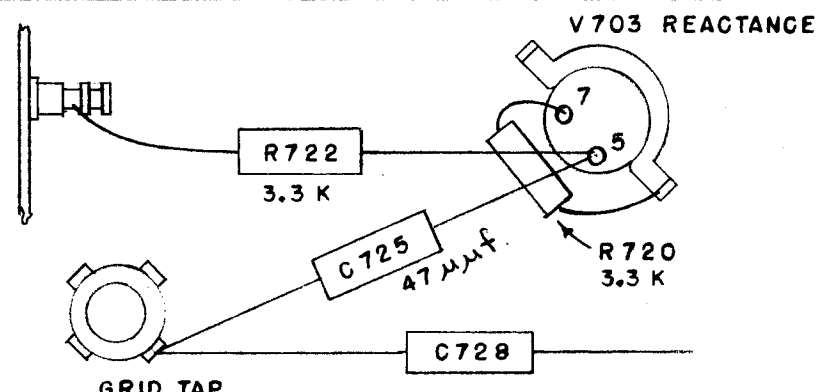

FIG. 3
3. Remove bottom plate from Model FFRD-7. Remove resistor R720 which is connected between pin 7 of V703 and ground. Replace with part RC20GF332K. Remove resistor R722 which is connected between pin 5 of V703 and a terminal post. Also remove capacitor C725 which is connected between pin 5 of V703 and a terminal post. Replace R722 with part RC20GF332K. Rewire part CC21SL470K from pin 5 of V703 to grid lug on oscillator coil form as shown in figure 3. Replace bottom cover.